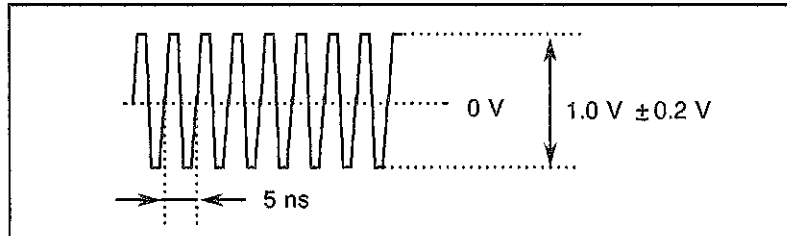

Figure 8-2 CLOCK2 Output Waveform (f = 200 MHz)
- (6) Normal when the waveform is a rectangular wave as shown in Figure 8-2.